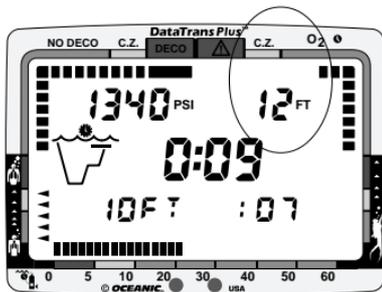

Fig. 92 - Deco Mode
**never ascend shallower than your decompression ceiling. Doing so will greatly increase your risk of decompression sickness,** and place the DataTrans Plus into a Conditional Violation Mode described later. When coping with surge and swells, it may be difficult to stay at an exact depth. You should stay slightly deeper (Fig. 92) than the required stop depth indicated until the next shallower stop depth appears. Then, you can ascend to, but not shallower than, that indicated ceiling stop depth.